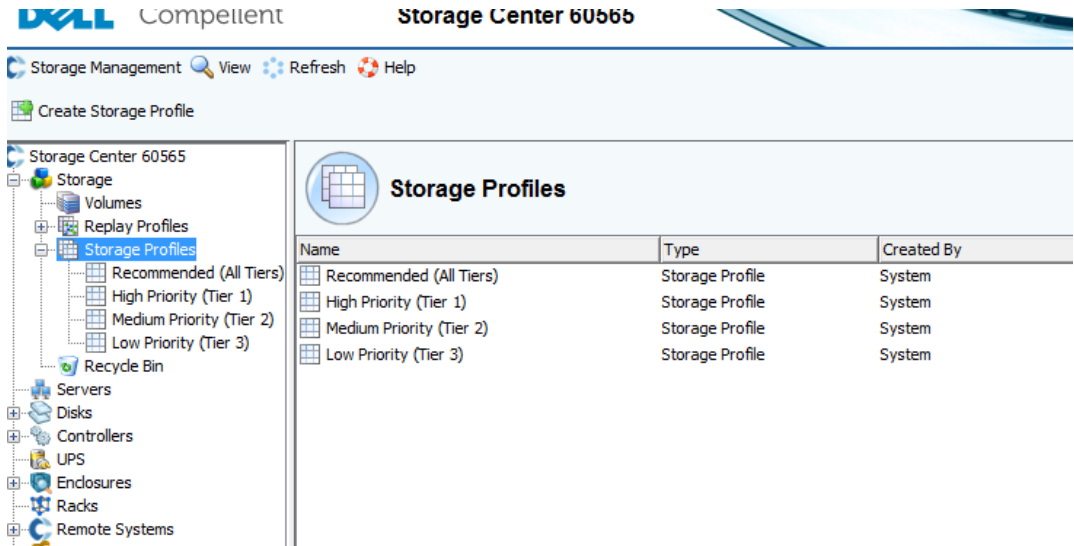

Figure 29. Create a storage profile
1. From Storage Center, click **Create Storage Profile**, as shown in Figure 29.